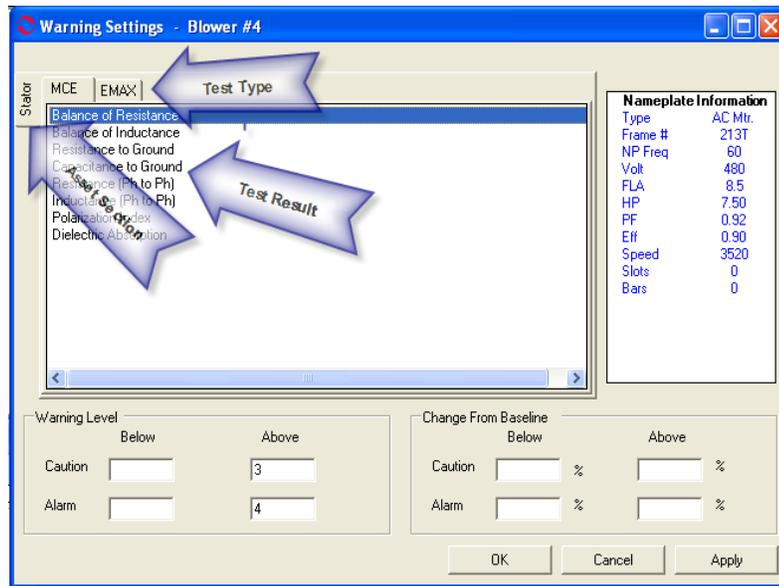

Figure 3-45: Warning Settings Window
2. Select the Warning Settings icon  on the toolbar. The Warning Settings window shown in Figure 3-45 opens.